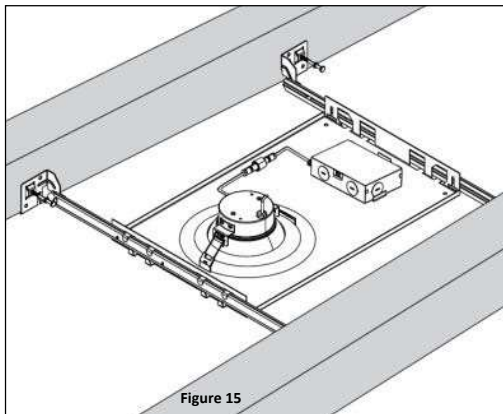

Figure 15
1. Secure the assembly between the ceiling studs in the area desired for installation. **See Figure 15.**